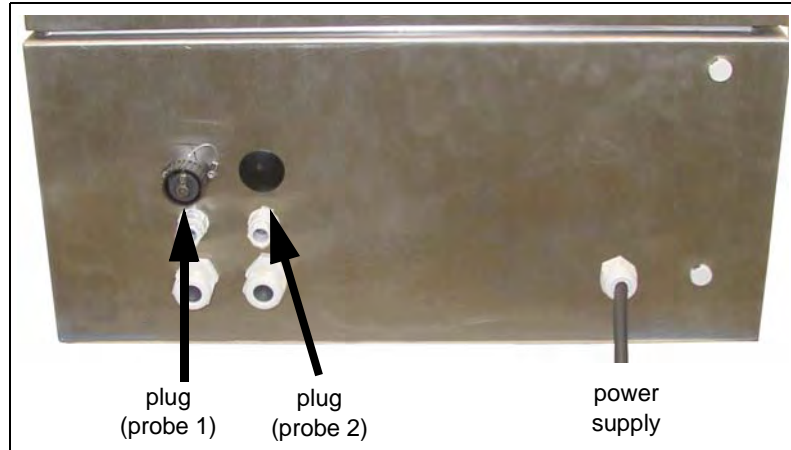

Fig. 3.2.4.1-1: Control cable connection to weather protection housing of the panel-PC
- Connect the seven-pin plug of the control cable to the black socket on the bottom of the protective housing (fig. 3.2.4.1-1) and tighten. Use the left plug for the first probe and the right plug for the second probe.